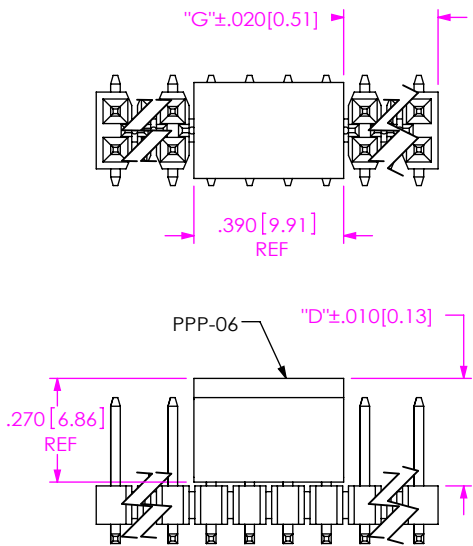

FIG 4
- (POS -04 THRU -36, 50 USE PPP-06, SEE FIG 4, SHT 2)